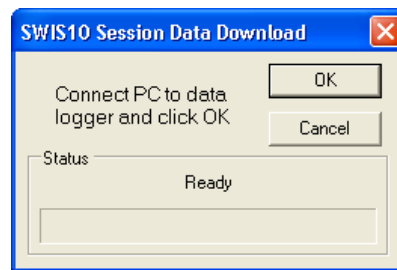

Figure 14 - Session Data Download Dialog (Idle)
1. Click the Download button  on either the main toolbar or the Lap Explorer toolbar, or select **File** → **Download** from the main menu. The Session Data Download dialog (Figure 14) appears.